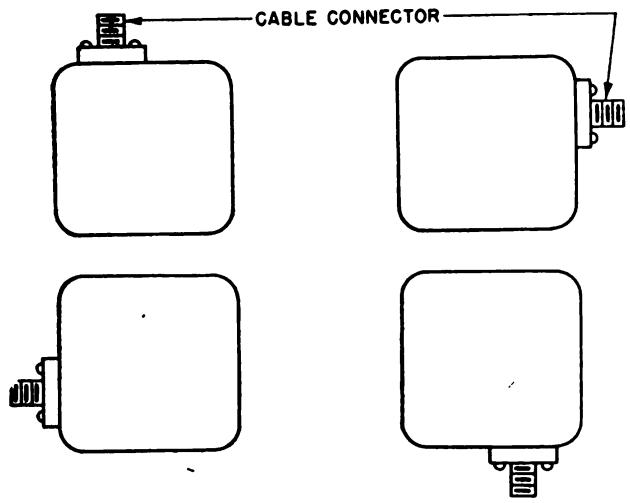

Figure 32. Terminal Box TM-210, four mounting positions.
a. TERMINAL Box TM-210. (1) Figure 32 shows the positions in which the terminal box can be mounted on the radio set, so that it can be set for the easiest and most direct connection of the cable from the radio set to the mast base. The correct position is the one which permits installation with the fewest possible bends in the cable.